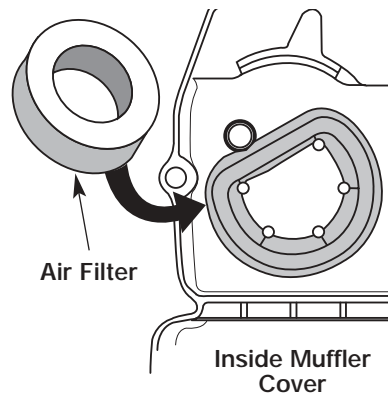

FIGURE 34
2. Remove the air filter from behind the air filter/muffler cover, Figure 34.
6. Replace the air filter in the air filter/muffler cover, Figure 34.